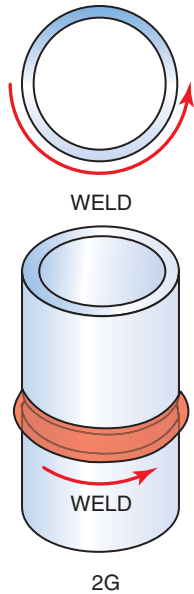

Figure 3.12 Pipe vertical position
- vertical 2G—The pipe is vertical to the horizon, and the weld is made horizontally around the pipe, Figure 3.12.